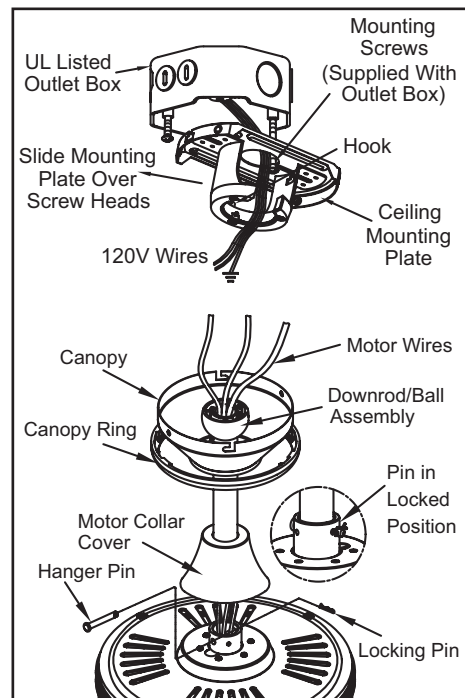

Figure 7
3. Route the wires exiting the top of the fan motor through the decorative motor collar cover then the canopy ring. Make sure the slot openings are on top. Route the wires through the canopy and then through the ball/downrod assembly (Figure 7).
5. Align the holes at the bottom of the downrod with the holes in the collar on top of the motor housing (Figure 7). Carefully insert the bolt through the holes in the collar and downrod. Be careful not to jam the bolt against the wiring inside the downrod. Insert the Clevis pin through the hole near the
end of the bolt until it snaps into its locked position, as noted in the circle inset of Figure 7.
1. Pass the 120-volt supply wires through the center hole in the ceiling mounting plate as shown in Figure 7.
2. Install the ceiling mounting plate on the outlet box, by sliding the mounting plate over the two screws provided with the outlet box (Figure 7). When using close-to-ceiling mounting, it is important that the mounting plate be level. If necessary, use leveling washers (not included) between the mounting plate and the outlet box. Note that the flat side of the mounting plate is toward the outlet box (Figure 7).